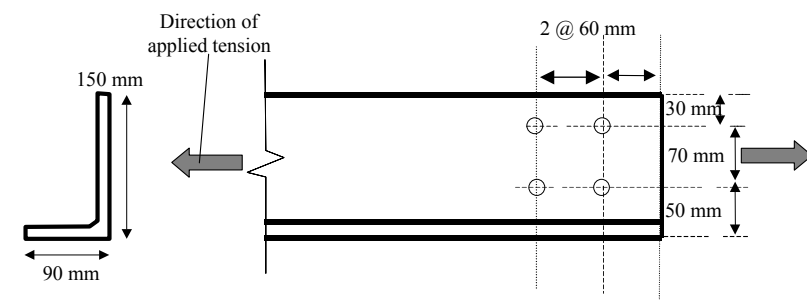

Figure 1: Bolt hole pattern in $150 \times 100 \times 10$ UA Grade 300
- b) Single $150 \times 90 \times 10$ Unequal Angles in Grade 300 steel are being used as diagonal tension members in a truss. A typical UA member is connected to each chord of the truss using M20 bolts through the long leg of the UA only, and the pattern of 22 mm diameter bolt holes is shown in Figure 1 below. The capacities of the bolts in shear, and the ply in bearing do not need to be considered.